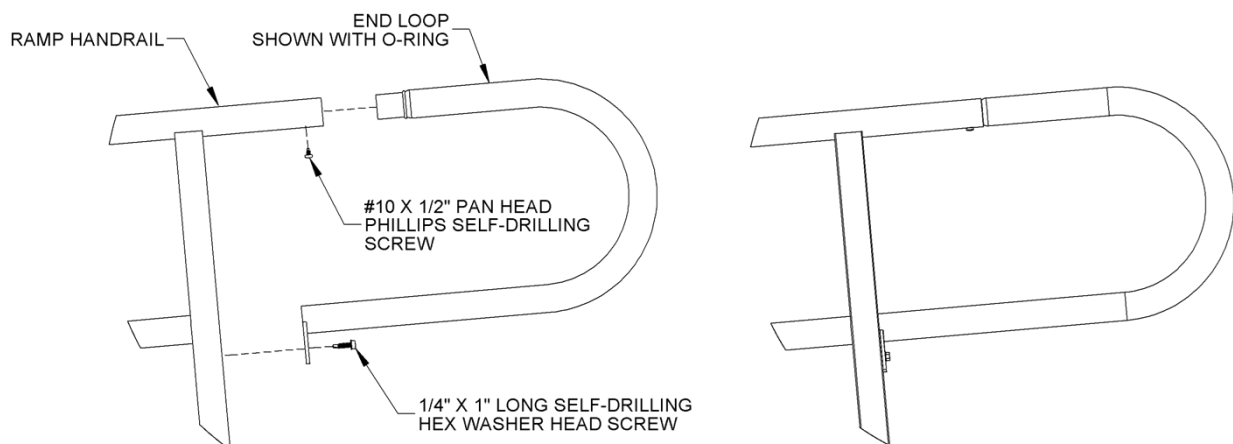

FIG. 7.7
- 7.3.1.2. Install one 1/4" x 1" long self-drilling hex washer head screw through the hole in the end loop attachment plate, into the ramp handrail post, and tighten securely (FIG. 7.7).
- 7.3.2. Install one #10 x 1/2" pan head Phillips self-drilling screw into each handrail (FIG. 7.7).